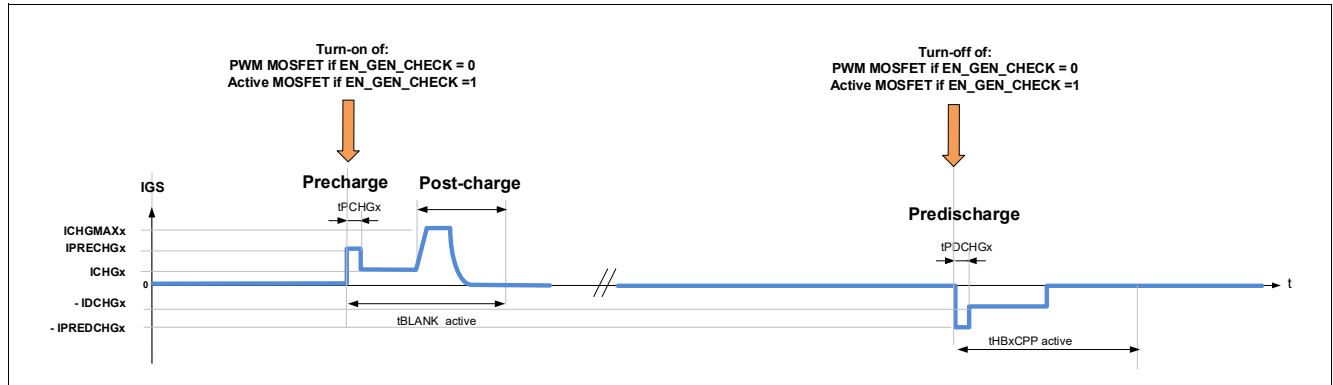

Figure 40 PWM overview - AGC = 10_B or 11_B, POCHGDIS=0 (post-charge enabled)
- **POCHGDIS** = 0: After the charge phase, the control signal for the charge current of LSx is increased by one current step at every bridge driver clock cycle (**BDFREQ**) to ICHGMAXx. Refer to **Figure 40**